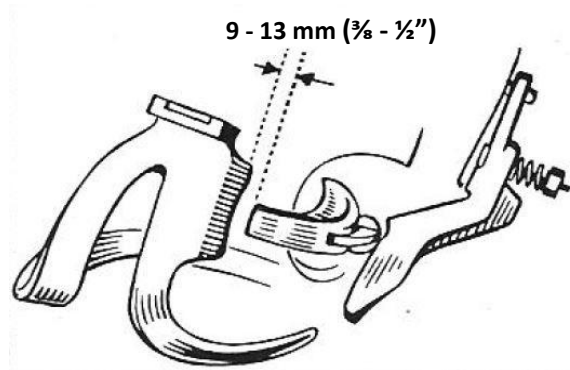

Fig.4.15 Typical (*correct*) Stripper Arm travel past the Bill Hook's tip
- **Worn Cam Roller:** The Knife Arm (cam) Roller (*Fig.3.4*) can wear or seize & develop 'flat spots' or the 'cam lobe' on the Cam Gear can wear. Either will cause insufficient Knife/Stripper Arm travel past the Bill Hook's tip (*Fig.4.15 & Table 5 – Fault 4*).
- **Insufficient Stripper Arm Travel past Bill Hook Tip** (*Fig.4.15*)